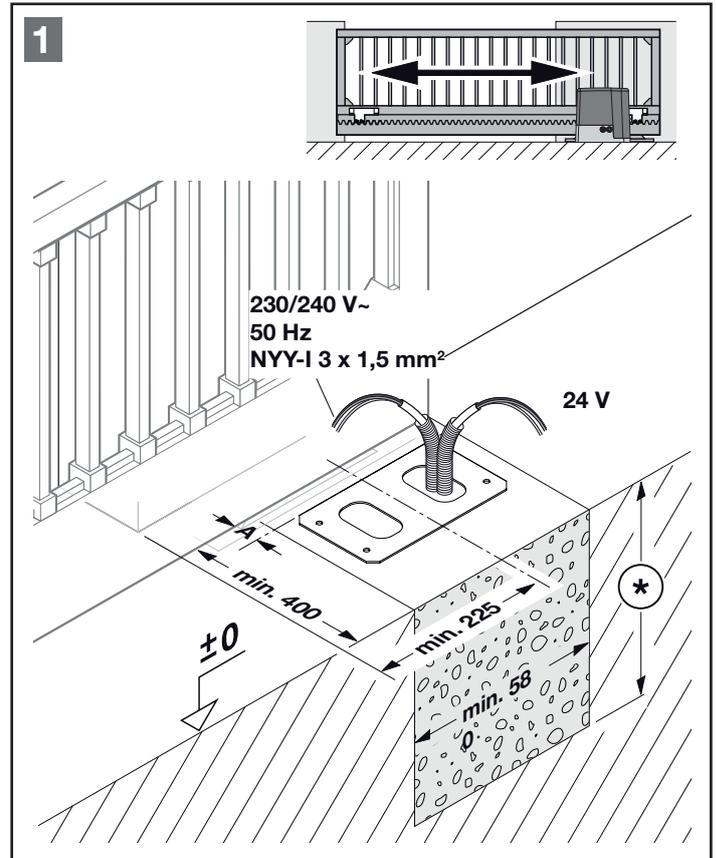
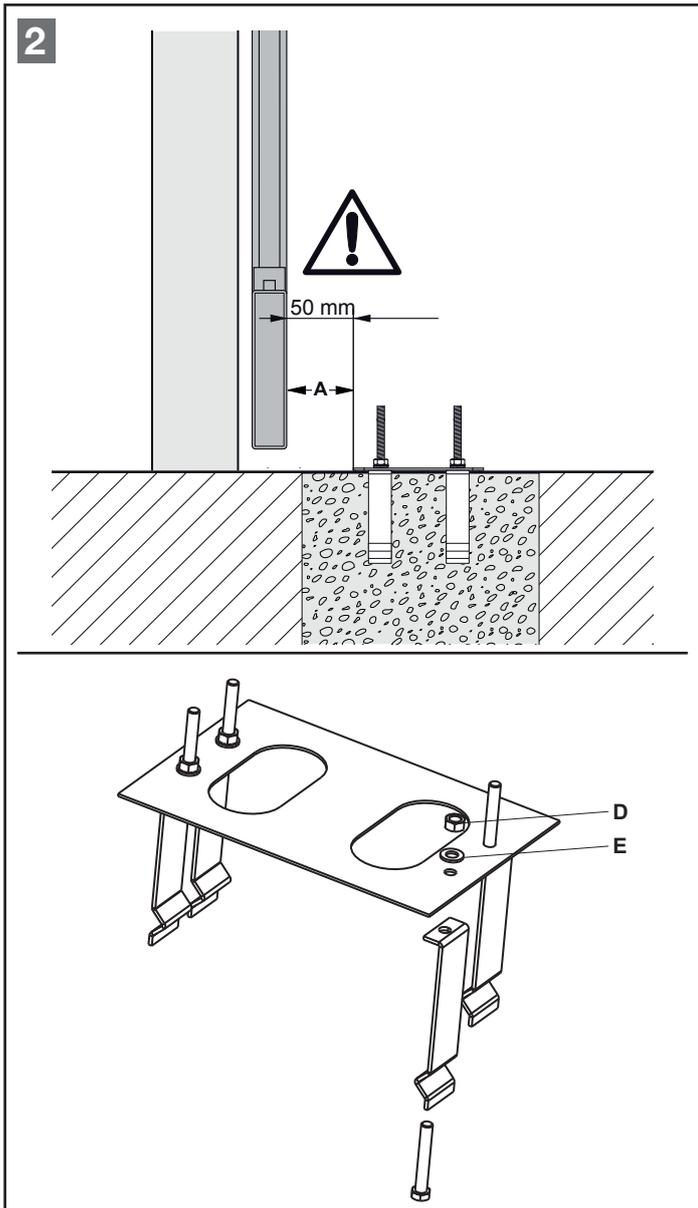

Figure 1 - Foundation
Figure 2 - Ground anchor
- A foundation must be cast for the sliding opener, as shown in Figure 1. The marking ⊛ indicates the frost-free depth (in Germany = 80 cm).
Always observe the installation dimensions! See "Figure 1 - Foundation" and "Figure 2 - Ground anchor".
Before drilling the four holes, their position must be marked on the surface of the foundation. Use the motor base plate as a drilling pattern. Always observe the installation dimensions! See **“Figure 1 - Foundation”** and **“Figure 2 - Ground anchor”**. Then drill plug holes, clean the holes and fix the base plate with suitable installation materials. Ensure to tighten the nut and washer to the ground.